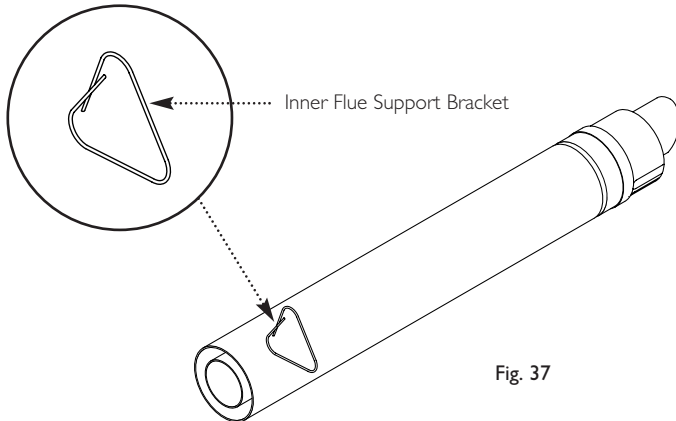

Fig. 37
7. Take the inner flue support bracket (if not already fitted) and engage it over the flue duct. This will centralise the flue and air ducts, and ease assembly (Fig. 37).